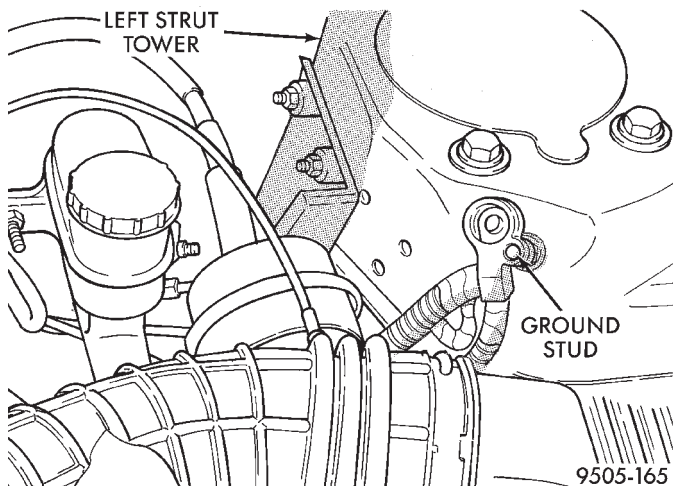

**Fig. 102 Correctly Isolated Remote Ground Cable**
(2) Correctly isolate remote ground cable when servicing vehicle by installing the ground cable insulator on the strut tower ground stud as shown (Fig. 102). **This will prevent accidental grounding of the remote ground cable.**